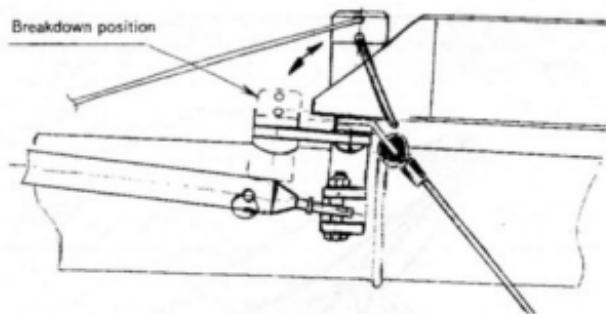

Fig. 2
- 2.1.5. Install the dive sticks to the corresponding places on the LE-tube/X-beam junctions. Attach the dive sticks using pins and safety rings (Fig. 2). The dive sticks must be outside of the bottom surface.